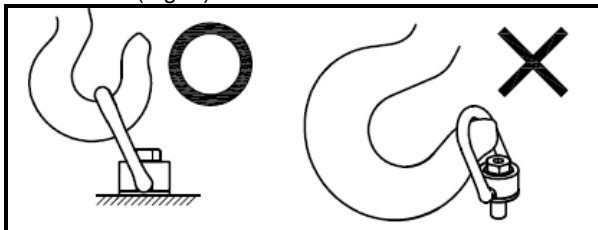

Figure 1
- Attach lifting device ensuring free fit to Anchor Point bail (lifting ring) (Fig. 1).